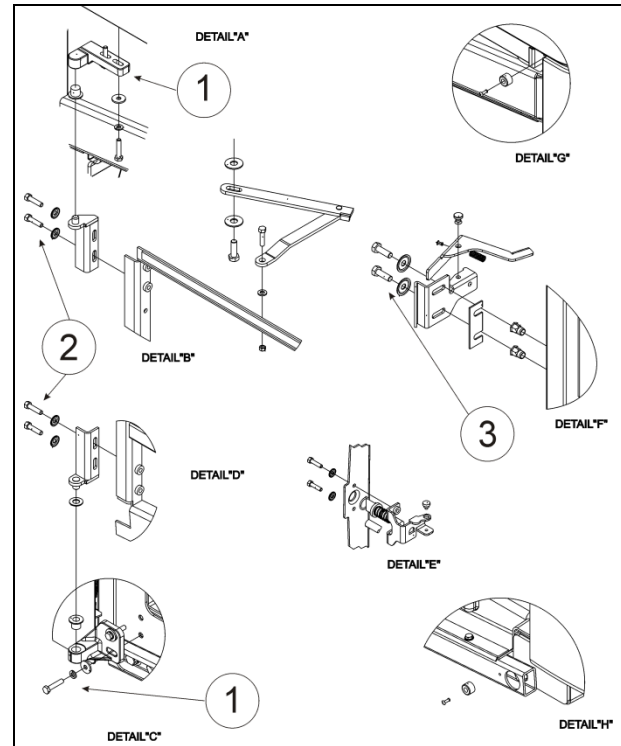

FIGURE 40: RADIATOR DOOR DETAILS 18636\_2
1. Loosen the bolts, (1, Figure 40) holding the hinge to the vehicle structure to shift the door "LEFT or RIGHT".
2. Loosening the bolts (2, Figure 40) allows the door to be shifted "UP or DOWN".
To adjust the latch mechanism (3, Figure 40) and the striker pin: